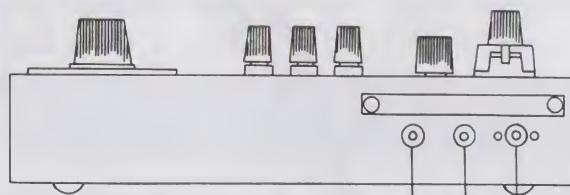

Fig. 1-3 Front side of case.
⑯ Cover fastener for the battery compartment.
⑯ Carrying handle.
C. Front Side of Case, Fig. 1-3